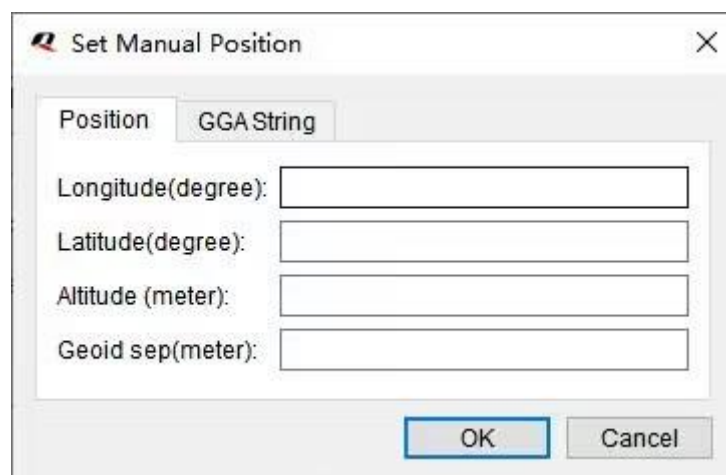

Figure 26: Setting Manual Position
Step 5: To utilize a fixed position, you can select the checkbox labeled “**Use manual position**”, and a “**Set Manual Position**” window will appear as shown in Figure 26: Setting Manual Position. Once you input the required data, the uploaded position will be the fixed value you have manually set.
Step 3: To utilize a fixed position, you can select the checkbox labeled “**Use manual position**”, and a “**Set Manual Position**” window will appear as shown in Figure 26: Setting Manual Position. Once you input the required data, the uploaded position will be the fixed value you have manually set. If the checkbox remains unchecked, the real-time position in the **GGA** message output by the module will be used.